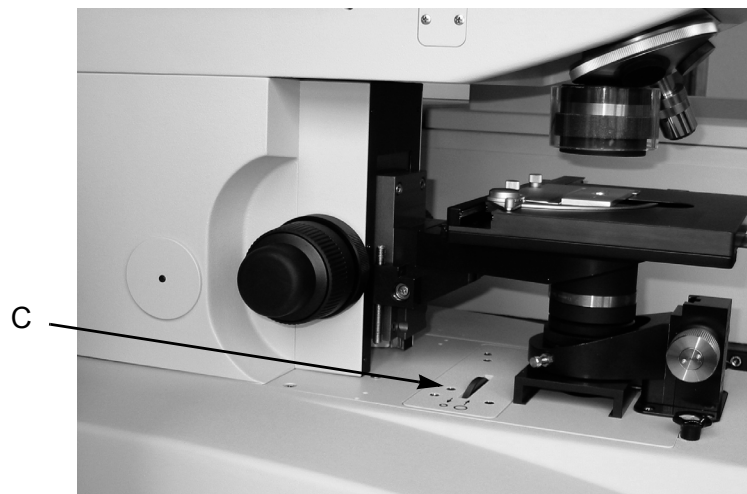

Figure 40: Location for additional Aperture (Transmittance Mode)
In order to reduce the beam diffraction in transmittance mode, apertures (A 672-RT, A 672-KT or A 672-TT) can be installed in location C (figure 40). (This option is not available in the U.S.A.)
**Note:** The apertures for reflectance and transmittance measurements installed in location A and B in fig. 39 (B only for reflectance) are interchangeable with each other. However, the apertures for transmittance measurements only installed in location C (fig. 40) are not interchangeable with the apertures installed in location A and B.